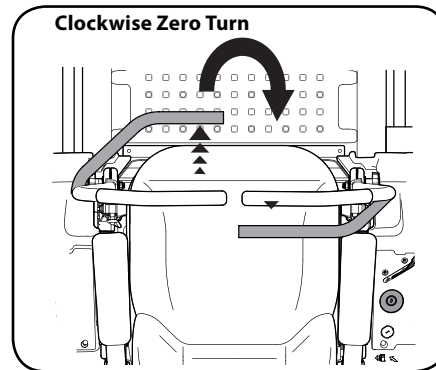

Figure 3-8
2. To turn clockwise, move the left control lever forward while simultaneously moving the right control lever rearward. See Figure 3-8.